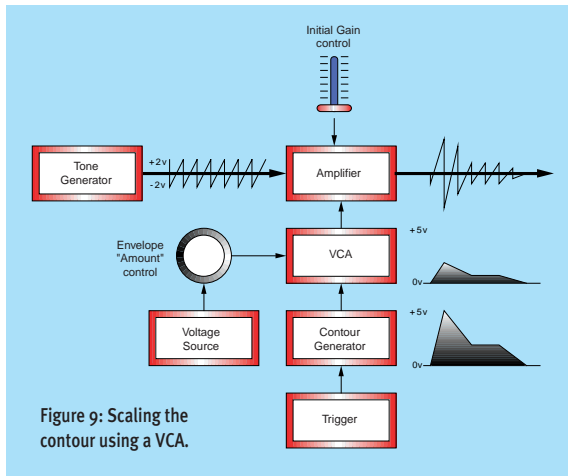
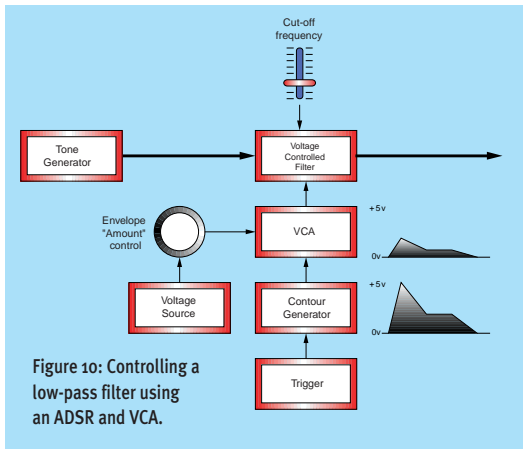

Figure 9: Scaling the contour using a VCA.
Figure 10: Controlling a low-pass filter using an ADSR and VCA.
Look at Figure 9 above. As you can see, I have placed a VCA in the control signal path, and this is in turn controlled by a CV that is itself controlled by an attenuator. This VCA applies a Gain (determined by the position of the attenuator) to the ADSR contour so that you can attenuate or amplify it without changing its shape.
▶ as the Initial Gain shown in Figure 9, you could have LFOs or a host of other controllers modifying the audio signal amplifier's action upon the signal. In this case, you are changing the degree by which the ADSR modifies the signal *relative* to the initial level and any other modifiers in use.
To make this clearer, let's use another example that you will have encountered more often. Figure 10 is similar to Figure 9, except that the CVs are controlling a low-pass filter, not an amplifier. As you can see, the fader at the top of the figure is now the initial level of the filter, most usually called the 'cutoff frequency', and the VCA is controlling the amount of contour applied to this. Clearly, you don't want the filter to open completely for every sound you make, so almost every synth allows you to attenuate the contour using a VCA, as shown.